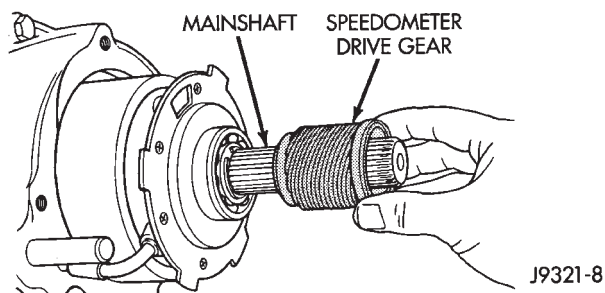

Fig. 30 Speedometer Drive Gear Removal
(8) Remove speedometer drive gear (Fig. 30).